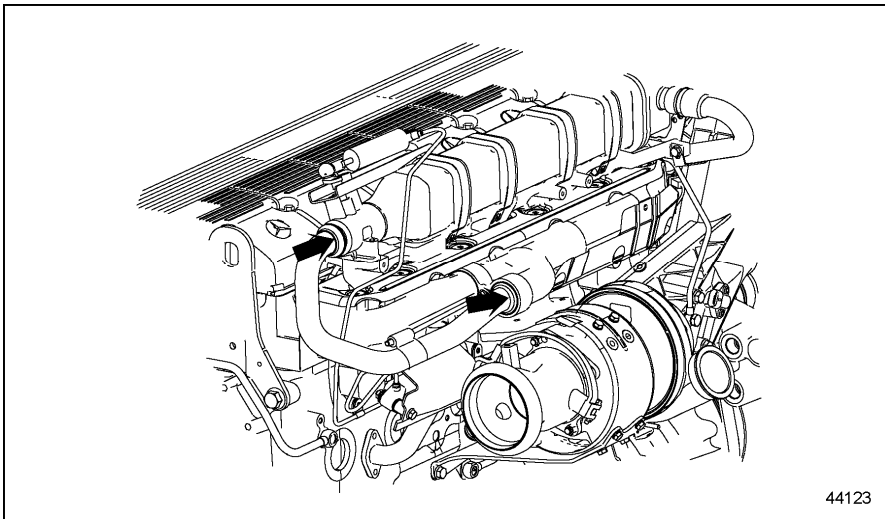

Figure 3 Gas Inlet Pipe
3. Gently pull the gas inlet pipe from the center piece of the exhaust manifold and the throttle shutoff valve. Note the arrows highlighting the affected areas in Figure 3.
16. Gently install the gas inlet pipe into the center section of the exhaust manifold and the throttle shutoff valve. See Figure 3.